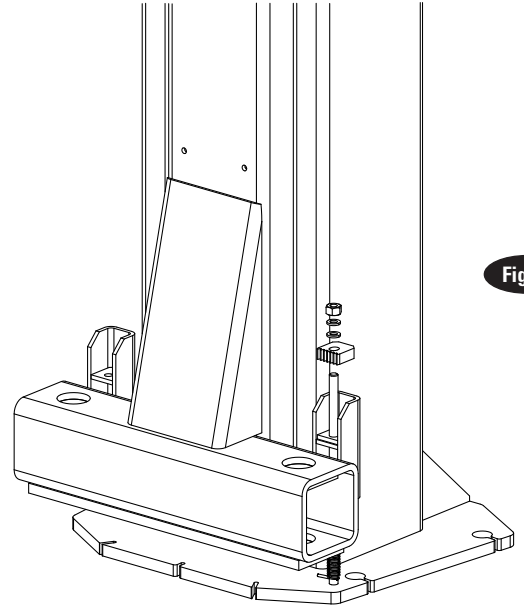

Fig. 31
- C) Install restraint pawl, flat washer, and lock washer onto actuator pin. Install 10 mm nut but do not tighten, Fig. 31.